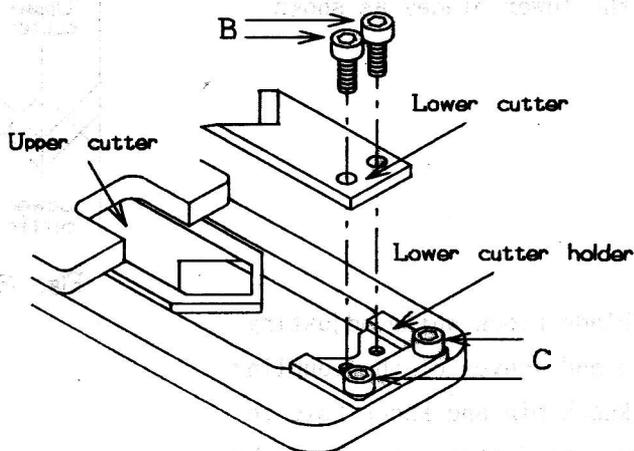

Fig. 4
- Remove screw B and then the lower blade. (See Fig.4)